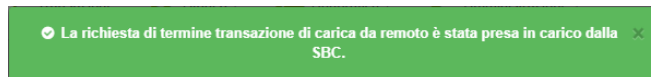

Figure 6.4
6. Wait for the SCAME MMS to respond with a message that the procedure has successfully ended (visible in Figure 6.4).